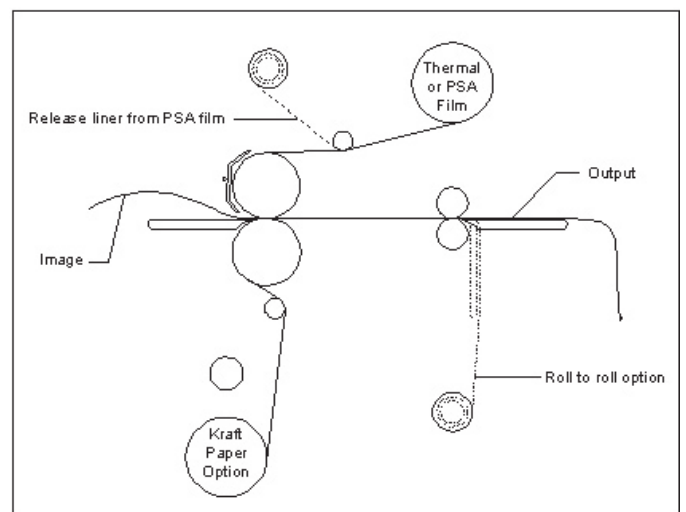

Fig 36
Tips For Single Sided lamination (Figure 36)
1. Load the laminator as illustrated in Figure 36.